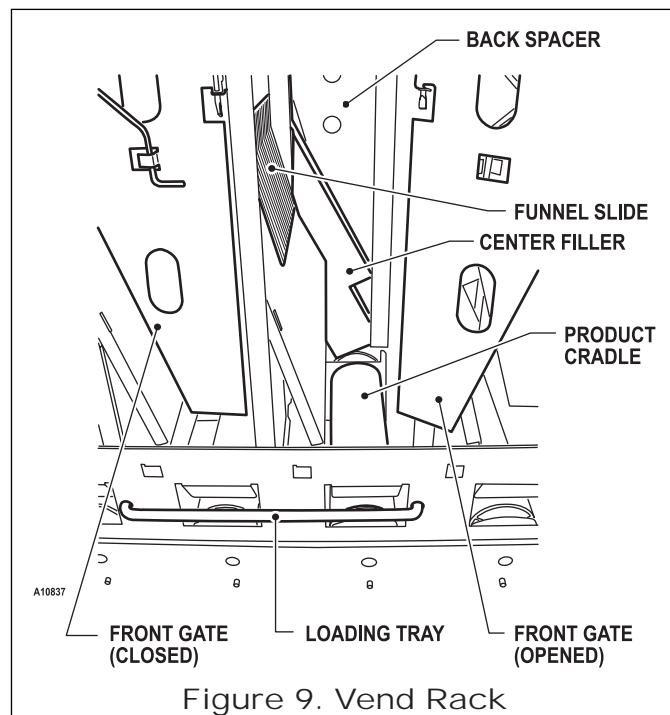

Figure 9. Vend Rack
2. Filler slides must be kept clean. Refer to Figure 9 for part names, locations and product orientation.